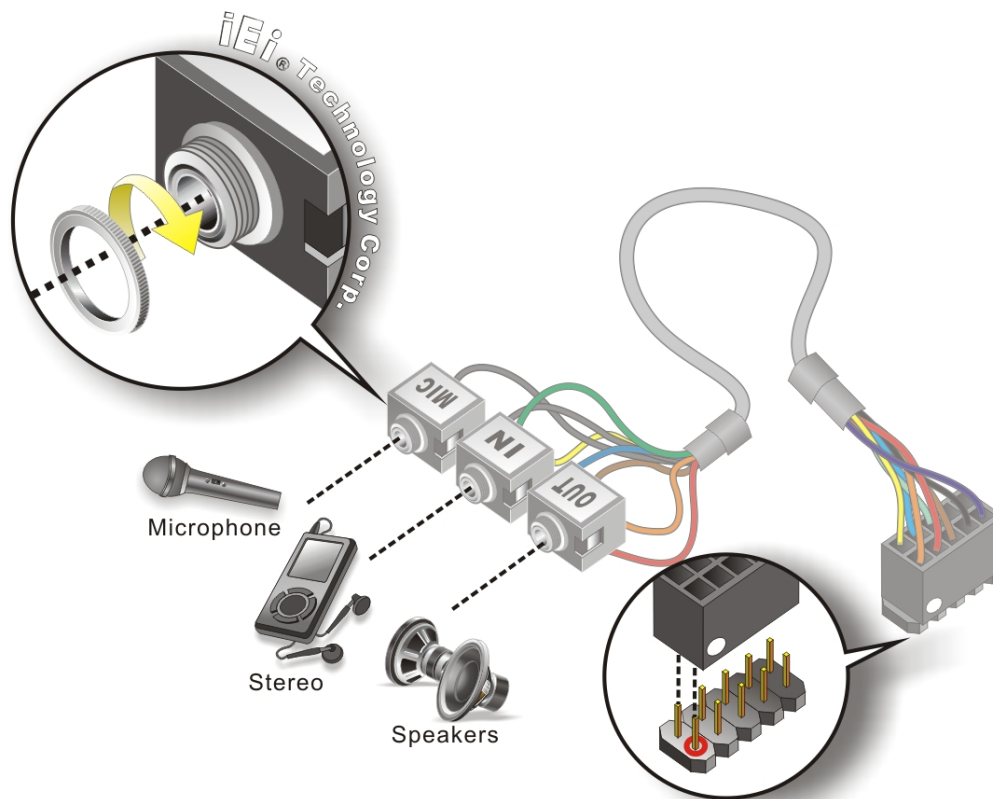

Figure 4-7: Audio Kit Cable Connection
Step 2: Align pin 1. Align pin 1 on the on-board connector with pin 1 on the audio kit connector. Pin 1 on the audio kit connector is indicated with a white dot. See Figure 4-7.